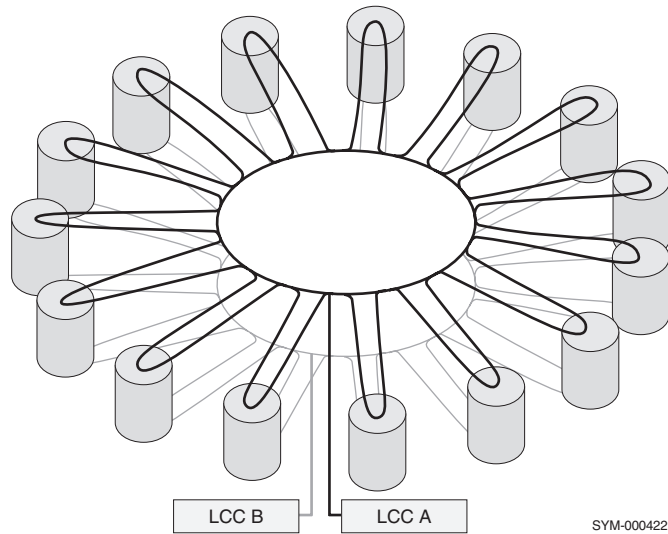

Figure 3-19 DAE Fibre Channel Loops
Each DAE contains from four to 15 dual-ported fibre drives (73 GB, 146 GB) that are configured on a redundant pair of 2 Gb/s FC loops. For the loop to operate reliably, switch elements (port bypass circuits — PBC) are inserted between each loop node. Each 15-drive DAE is an FC loop (Figure 3-19 on page 3-22).
- ◆ Multiple back-end connectivity—The FEBE board's function as a back-end adapter supports 15-drive Fibre Channel drive loops. For more information on director and disk combinations, refer to Figure 3-19 on page 3-22.